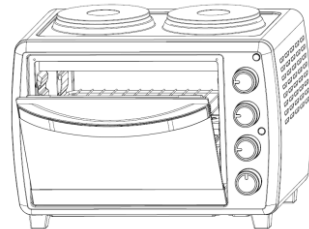

Fig. 10
8. If grilling or toasting leave the oven door ajar (fig. 10).